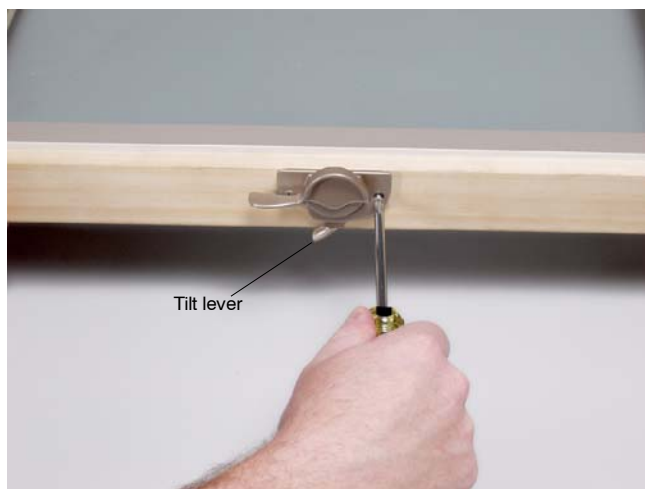

Figure 1-Removing lock
1. Using a Phillips screwdriver, remove the screws fastening the lock to the check rail. Set the lock and screws aside for use later. Note the loose tilt lever in figure 1.